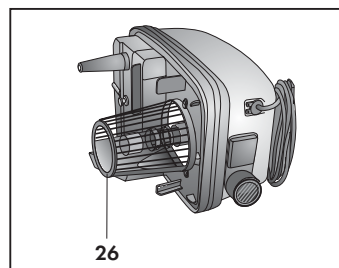

Fig. 30
Debris should also be cleaned off the outside of the filter (26) every time the lower part of the machine is cleaned (**Fig. 30**).